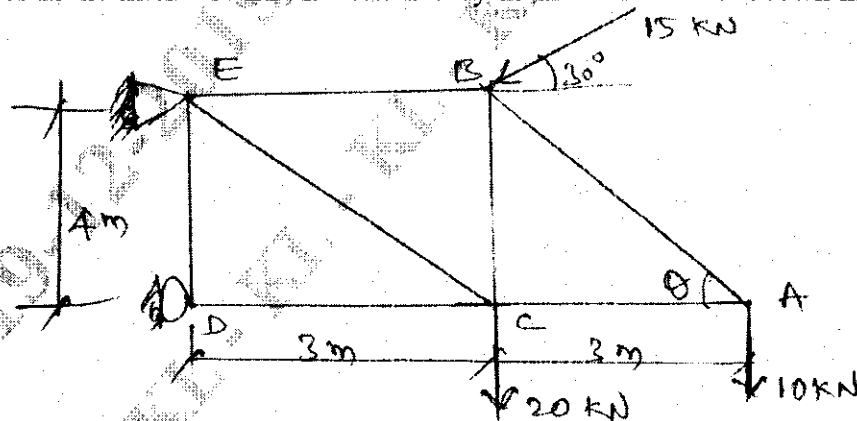

Fig.Q2(c)
- c. Find the forces in the members EB, EC and DC by method of sections shown in Fig.Q2(c). (04 Marks)